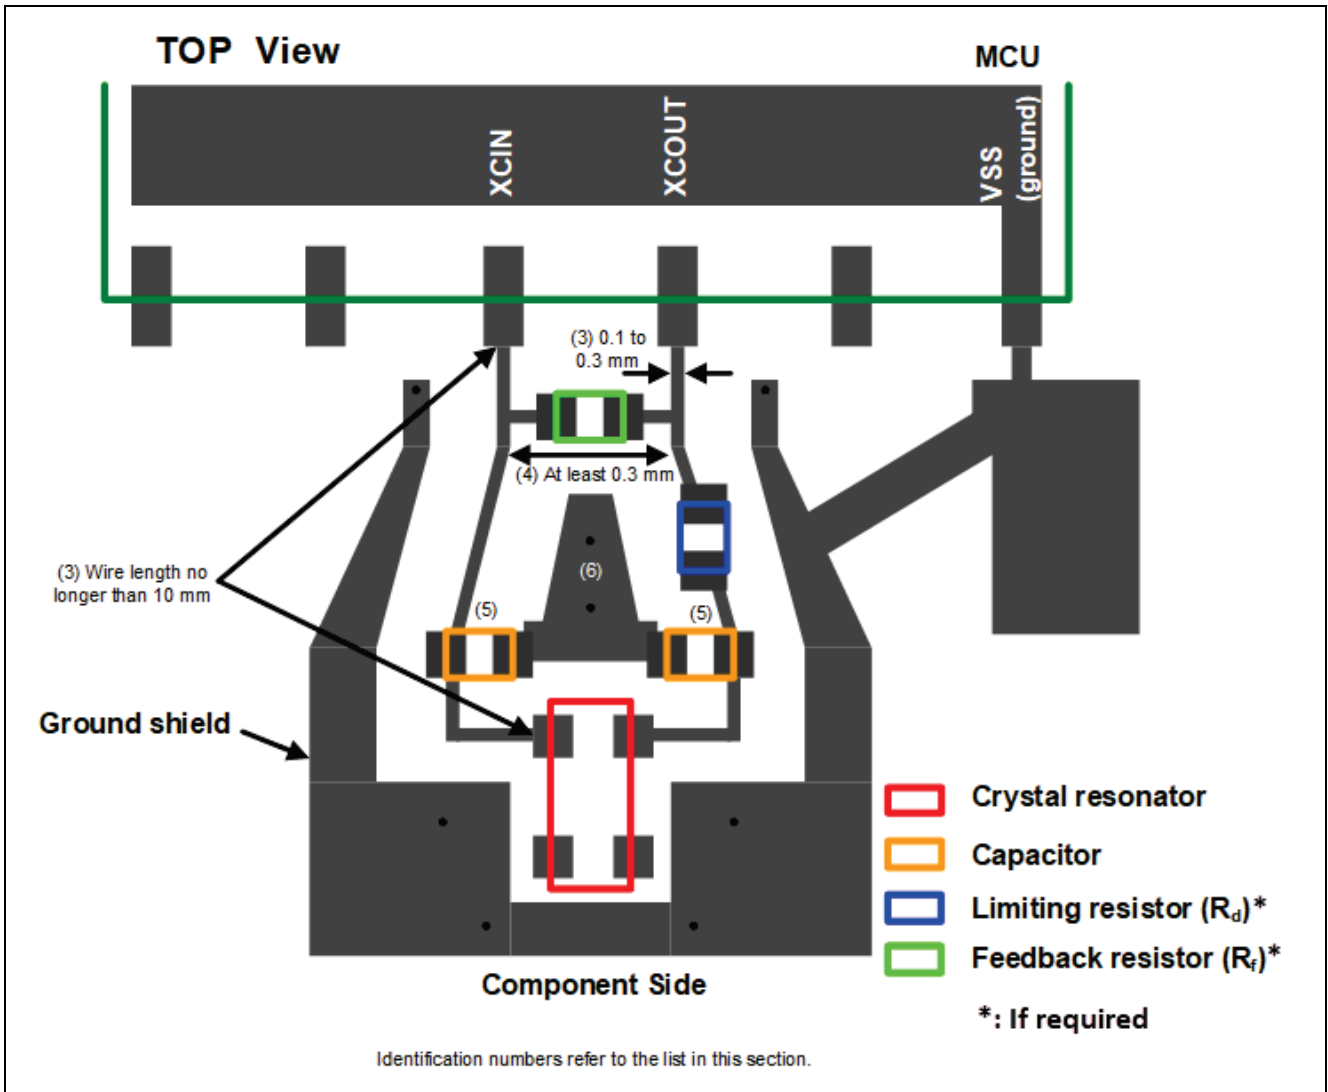
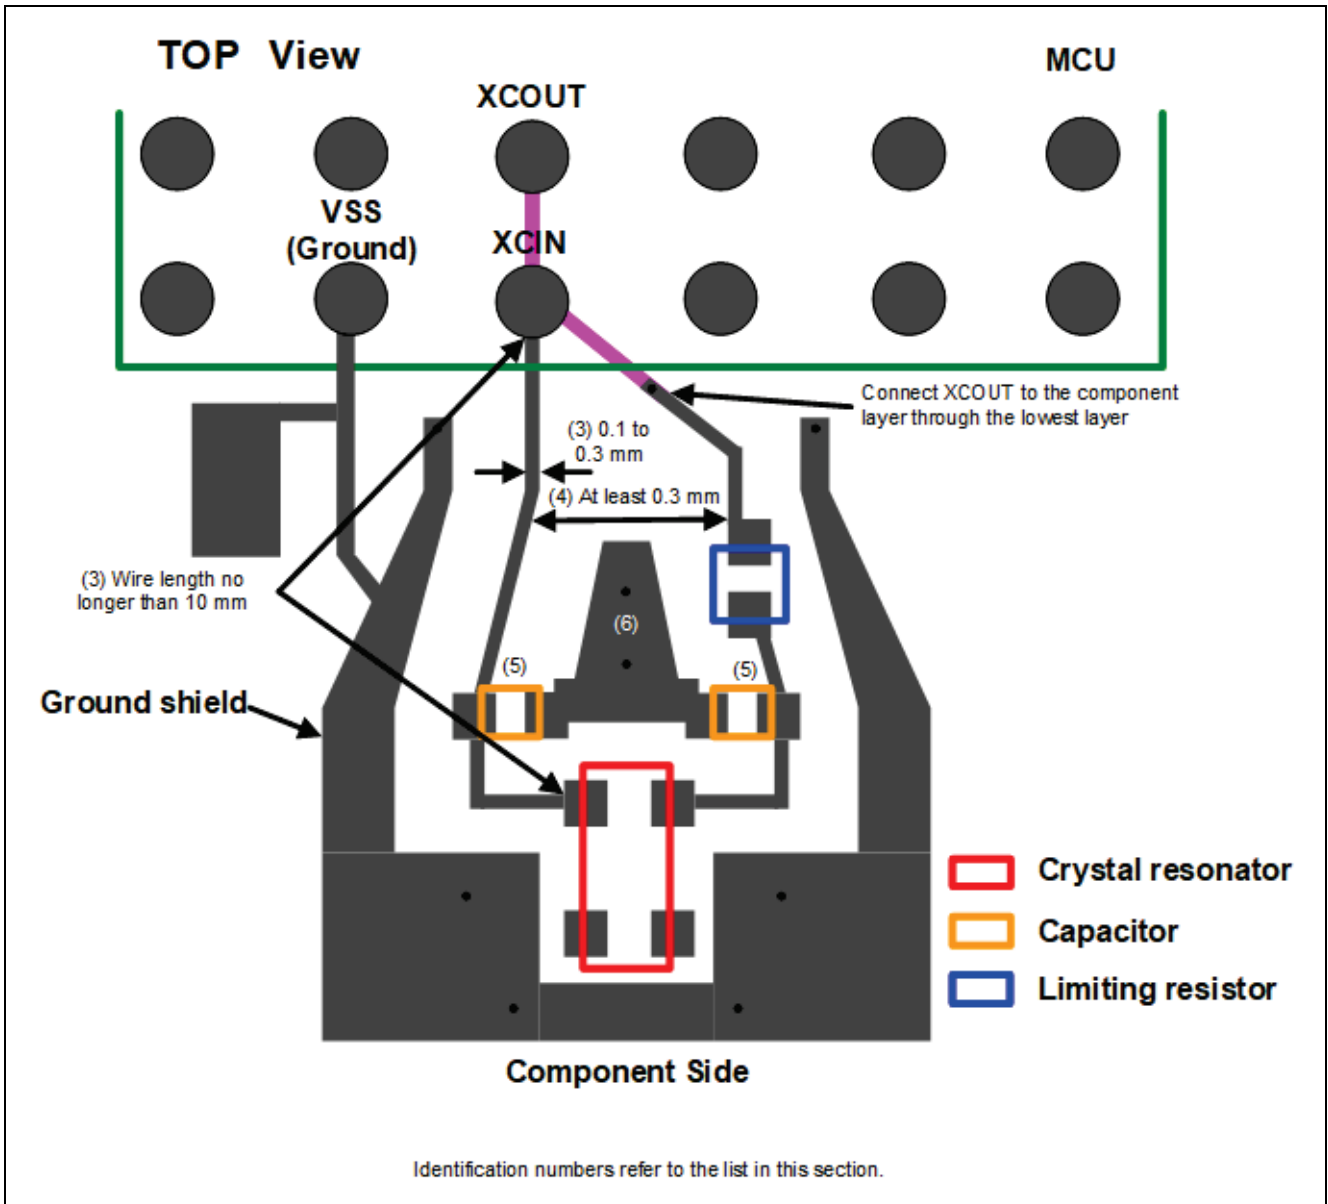
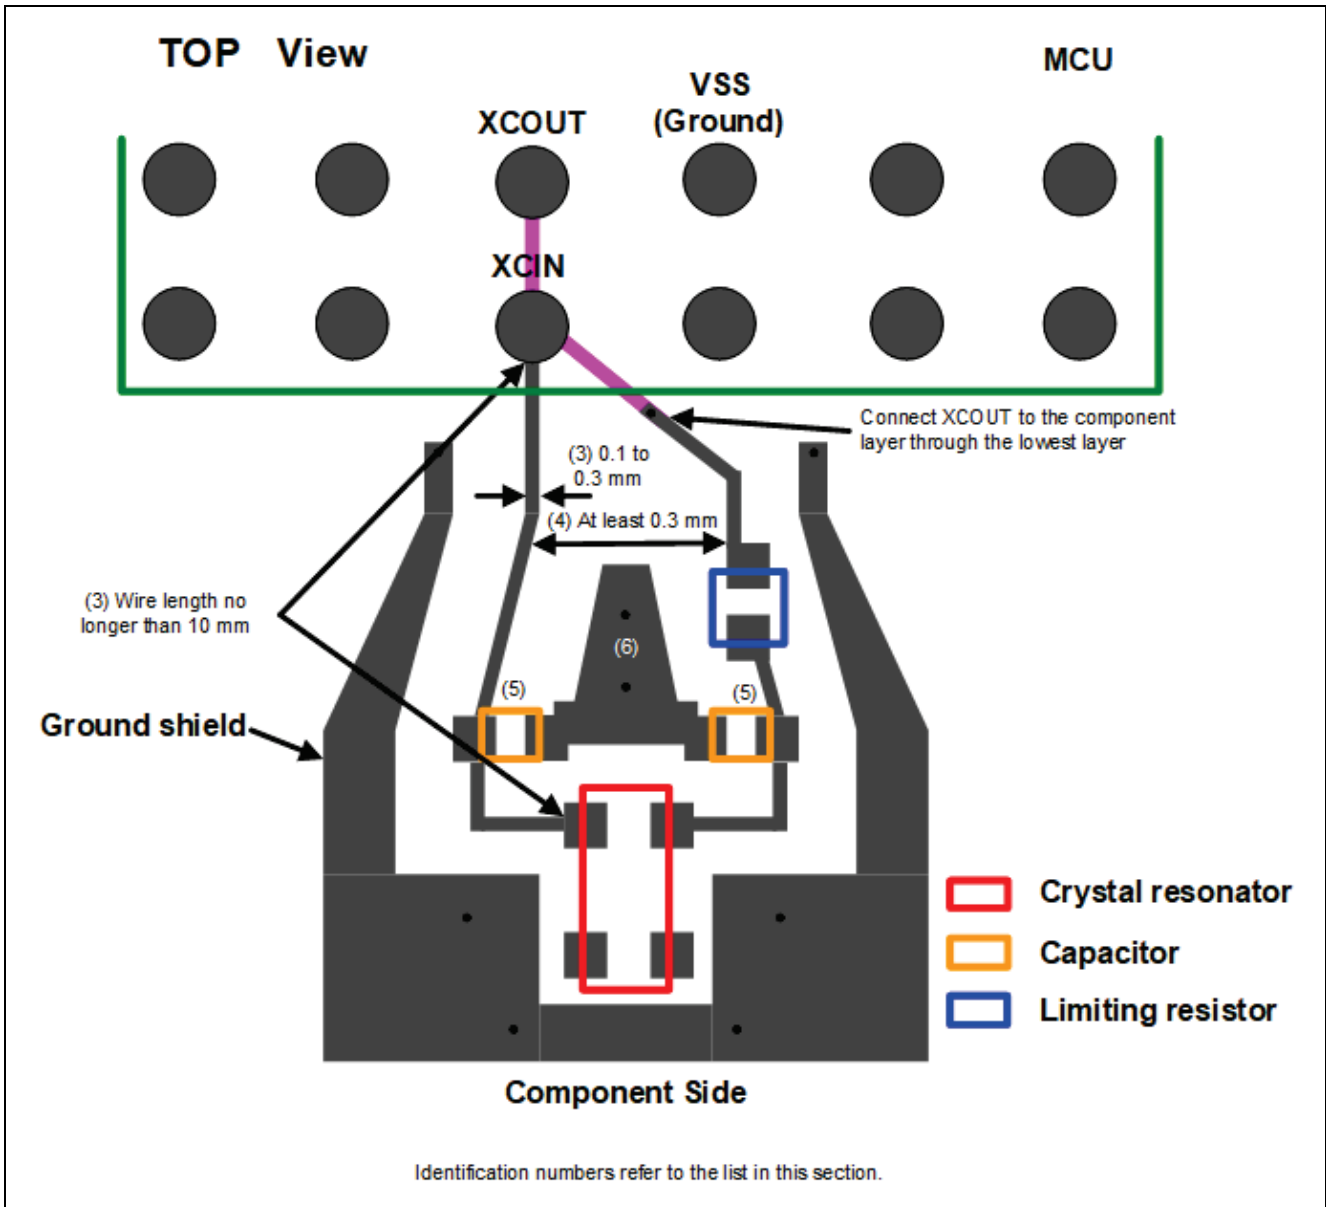
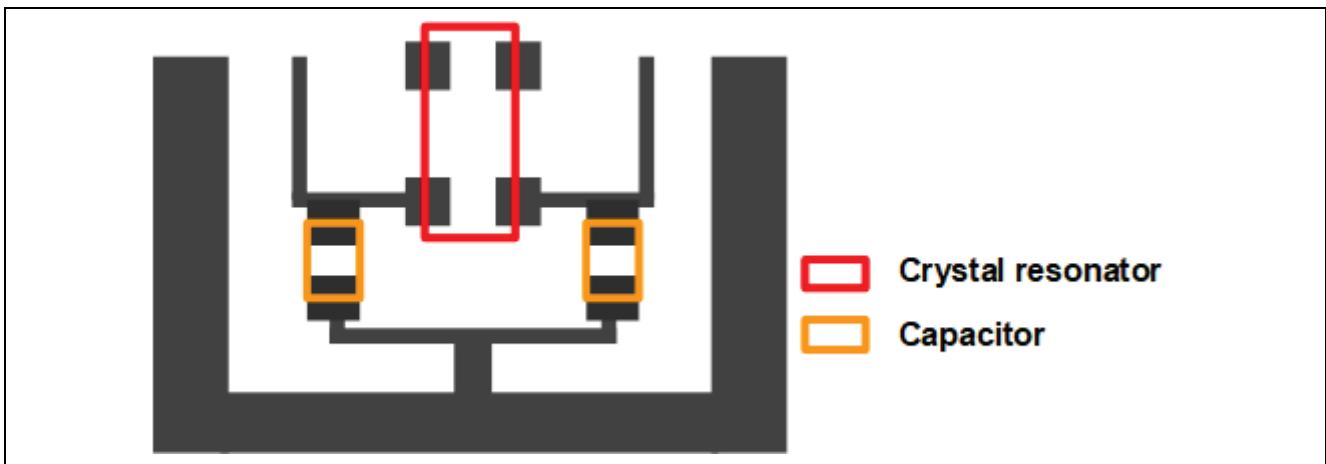

Figure 5. Example of Preferred Placement and Routing for XCIN and XCOU, LQFP Packages
Figure 6. Example of Preferred Placement and Routing for XCIN and XCOU, LGA Packages
Figure 7. Example of Preferred Placement and Routing for XCIN and XCOU, BGA Packages
Figure 8. Example of Alternate Placement and Routing for XCIN and XCOU
The following list describes points on routing for XCIN and XCOOUT. Figure 5, Figure 6, and Figure 7 show examples of preferred trace routing for XCIN and XCOOUT. Figure 8 shows an alternate example of trace routing for XCIN and XCOOUT. Identification numbers in the Figures refer to this list.
5. Connect external capacitors as close together as possible. Connect the traces for the capacitors to the ground trace (hereinafter referred to as the “ground shield”) on the component side. For details on the ground shield, refer to section 2.2.2. When the capacitors cannot be placed using the preferred placement, use the placement shown in Figure 8.